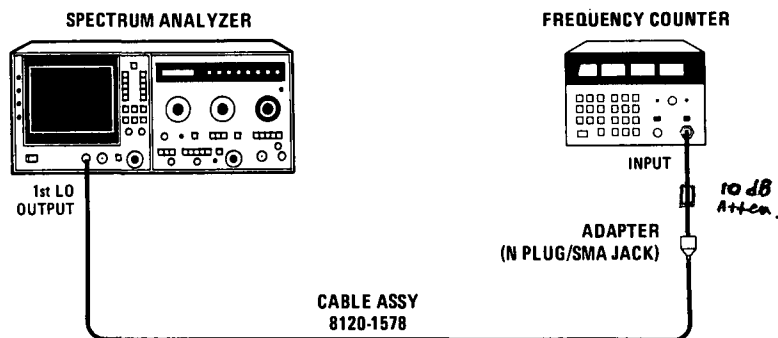

Figure 4-1. Tuning Accuracy Test Setup
- 4. Connect equipment as shown in Configuration A of Figure 4-1. Comb generator is connected to INPUT 50Ω connector of spectrum analyzer.
15. Disconnect comb generator from spectrum analyzer input. Connect sweep oscillator and frequency counter as shown in Configuration A of Figure 4-1.
**Use HP 8350A/83570A with appropriate adapters in place of 8620C/86290A, Configuration A of Figure 4-1.
17. Connect equipment as shown in Configuration B of Figure 4-1.